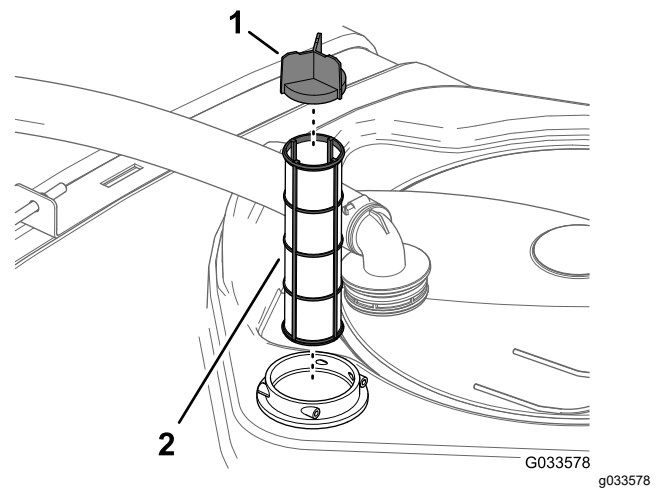

Figure 59
4. Remove the old suction filter from the filter housing in the tank (Figure 59).